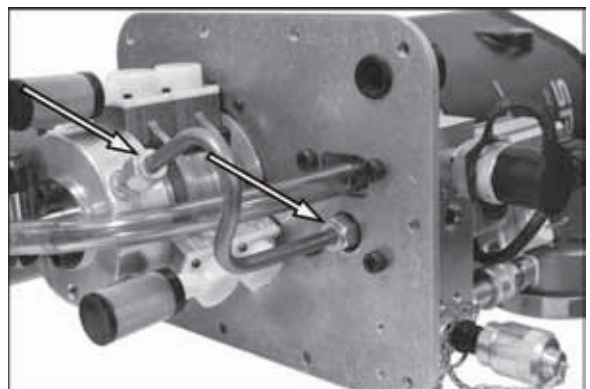

Figure 71.
2. See Figure 71. Loosen the two compression fittings and remove the high pressure tube.